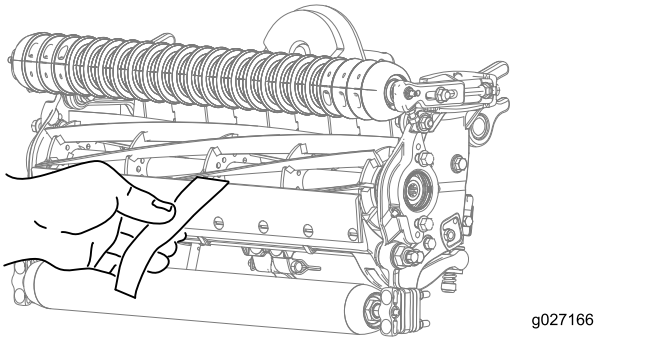

Figure 7
2. Test the cutting performance by inserting a long strip of cutting performance paper (Toro Part No. 125-5610) between the reel and the bedknife, perpendicular to the bedknife (Figure 7). Slowly rotate the reel forward; it should cut the paper.